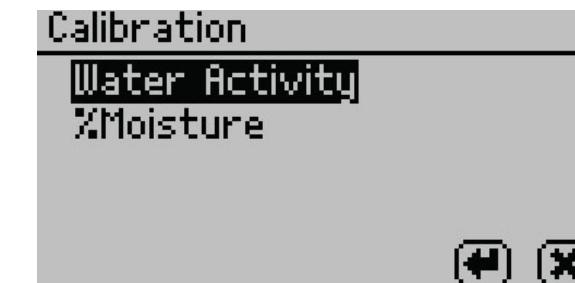

Figure 29 Calibration option
- **Calibration.** Select to start the calibration process (Section 4.1) for water activity or moisture content (Figure 29). Resetting factory defaults is described in Section 4.1.4.